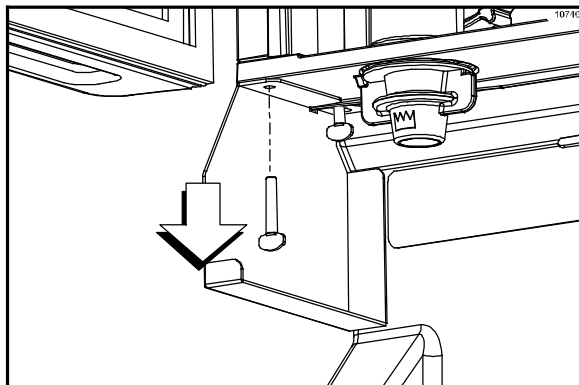

Figure 40
11. Remove the cup holder brackets. To remove the brackets, first remove the front screw of each bracket. Then turn the back screw 1/2 turn counter clockwise. (See Figure 40.)